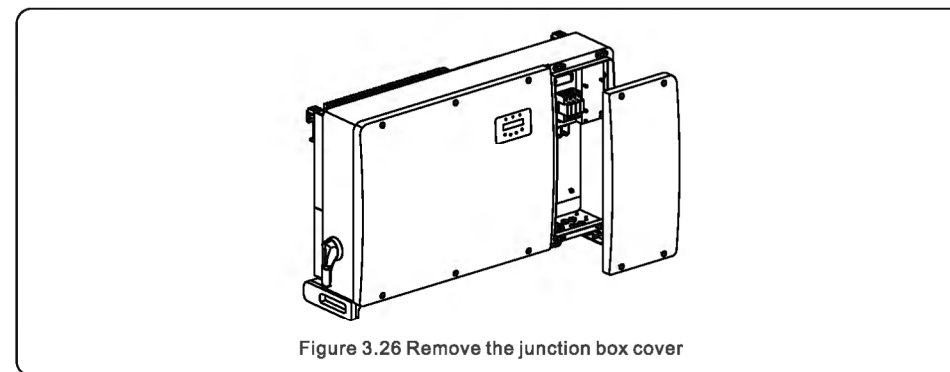

Figure 3.26 Remove the junction box cover
- 4) Remove the 4 screws on the inverter junction box and remove the junction box cover (Figure 3.26).